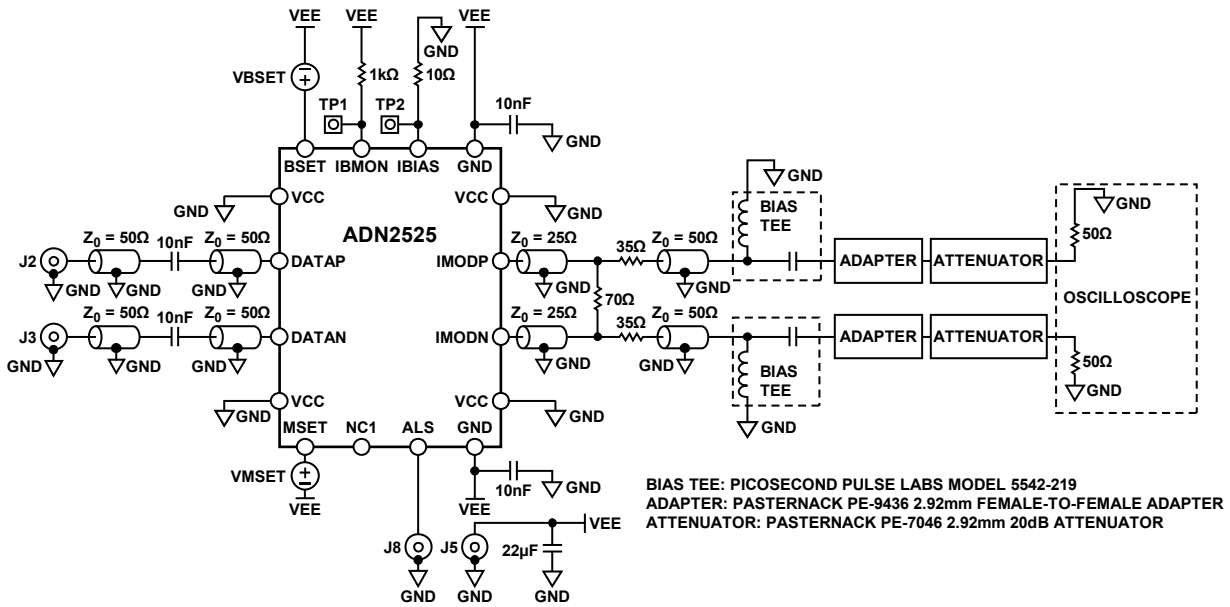

Figure 3. High Speed Characterization Circuit
- 3 Measured using the high speed characterization circuit shown in Figure 3.